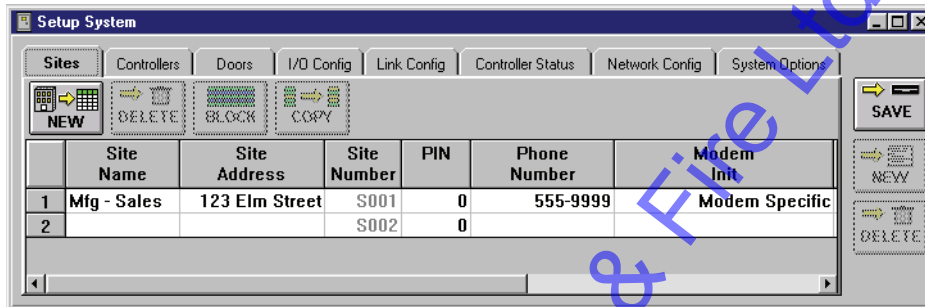

Figure 8-7: Adding a New Site
2. Click on the  site button. A new row appears on the Sites spreadsheet (see Figure 8-7). Information for the new site is added as shown in “Enter Site Configuration Information” on page 7 of this section.
2. Click on the **Sites** tab. The Sites window appears (see Figure 8-7 on page 6 of this section).